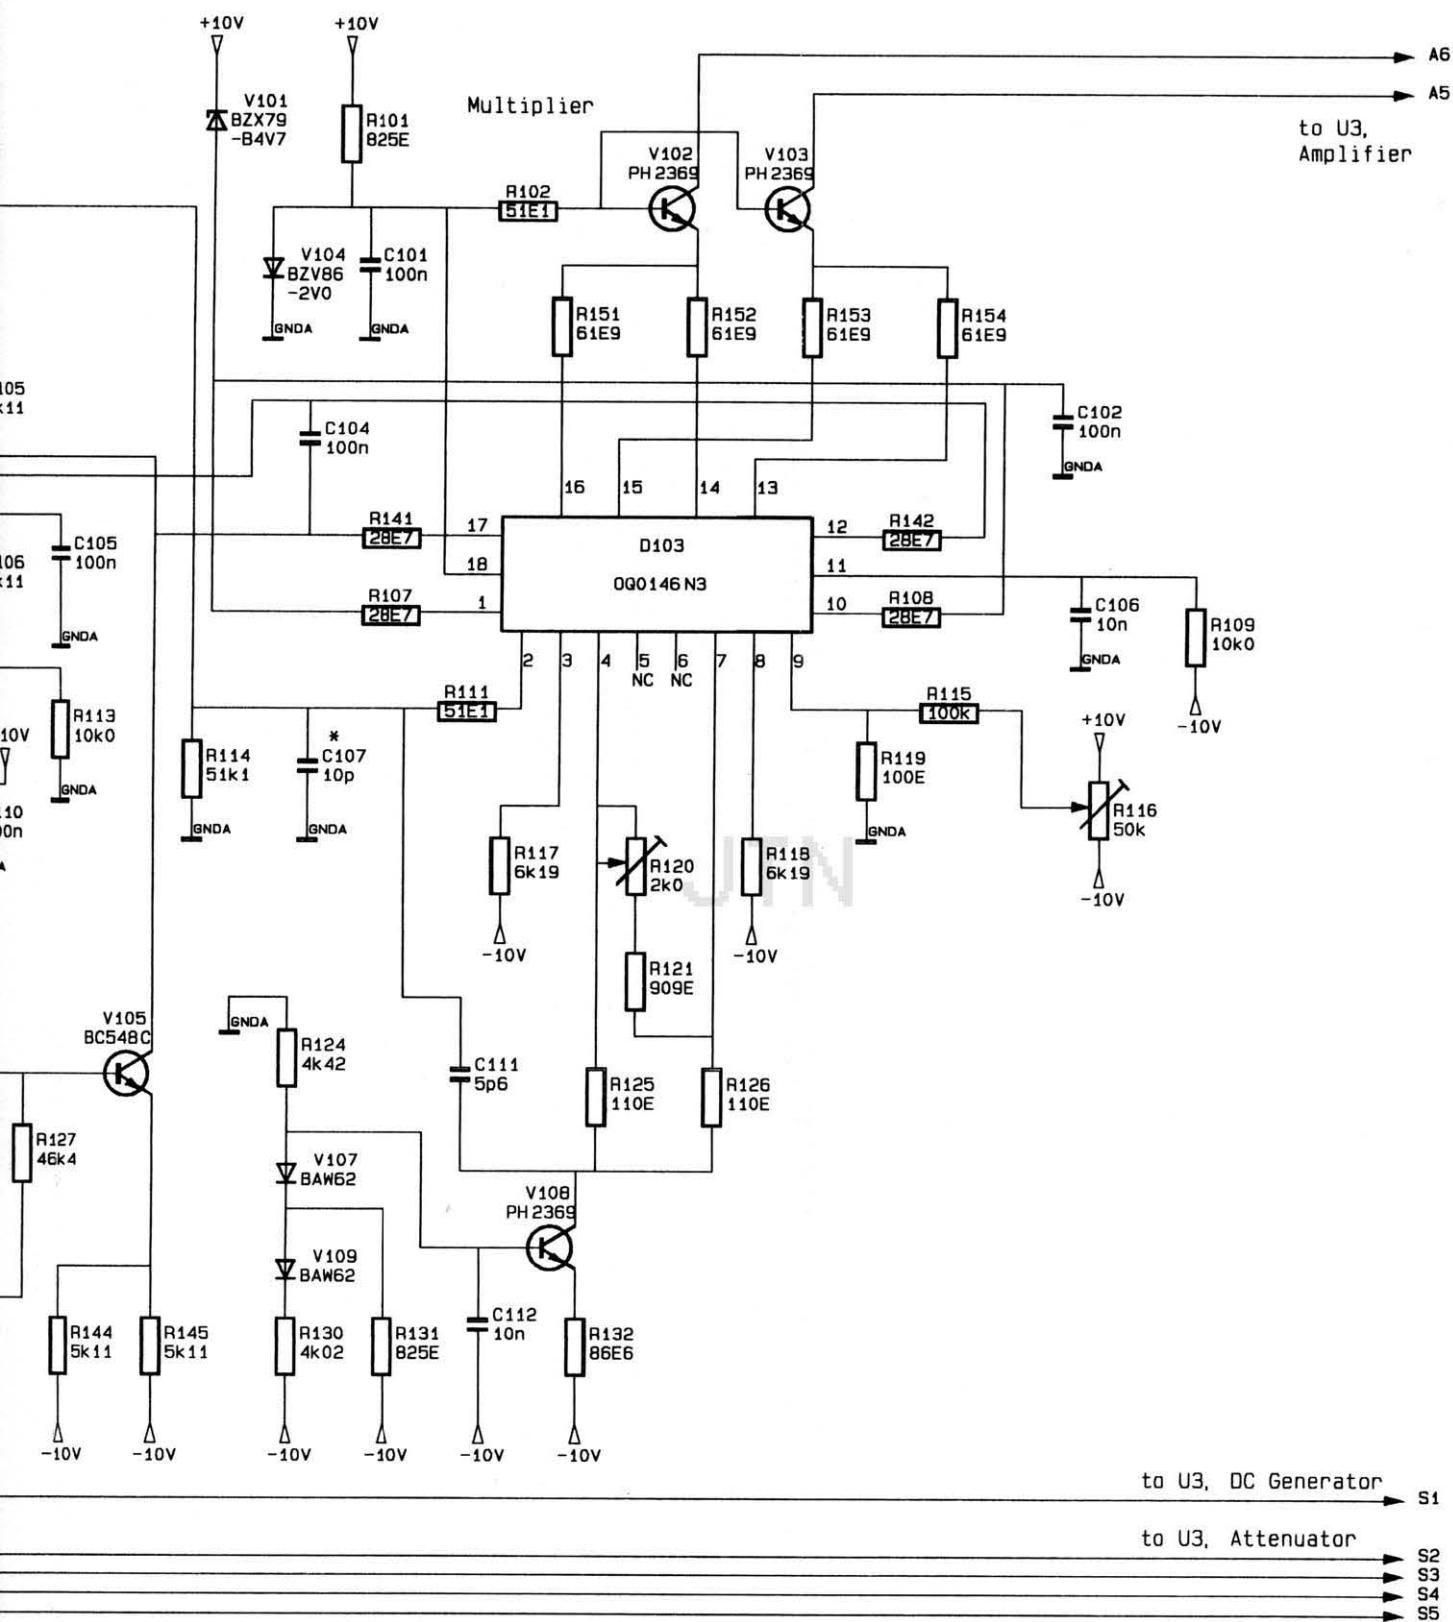

Fig. 109 Unit 3, Amplitude Controller
- Fig. 109 Unit 3, Amplitude Controller